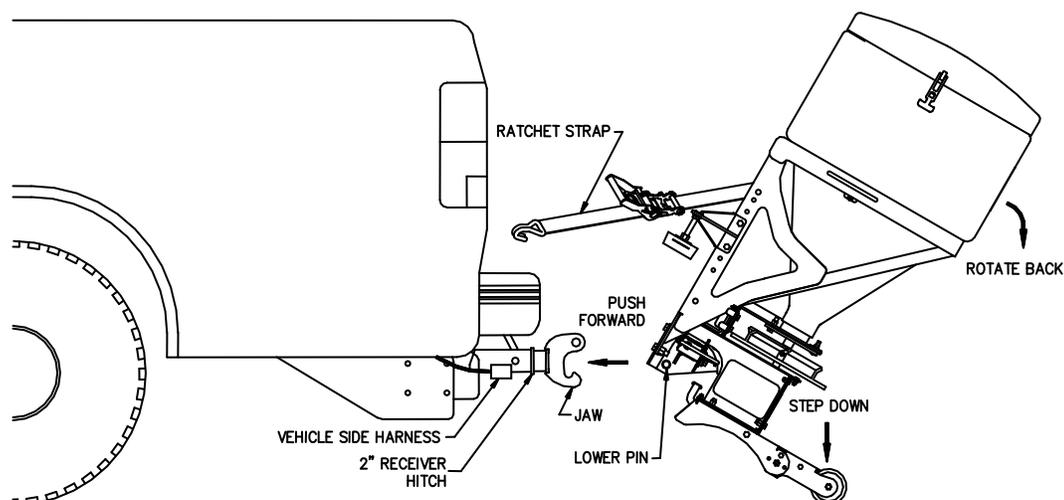

Figure 9. RT3 Attachment Mounting Procedure
5. Grip Spreader firmly, step on Leg Assembly, and rotate back until Bottom Pin is high enough to clear RT3 Attachment Hook Jaw, refer to Figure 9.